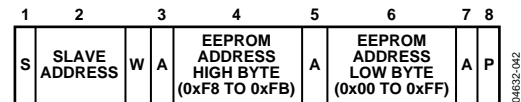

Figure 45. Setting an EEPROM Address
- To set up a 2-byte EEPROM address for a subsequent read, write, block read, block write, or page erase. In this case, the command byte is the high byte of the EEPROM addresses from 0xF8 to 0xFB. The only data byte is the low byte of the EEPROM address, as shown in Figure 45.